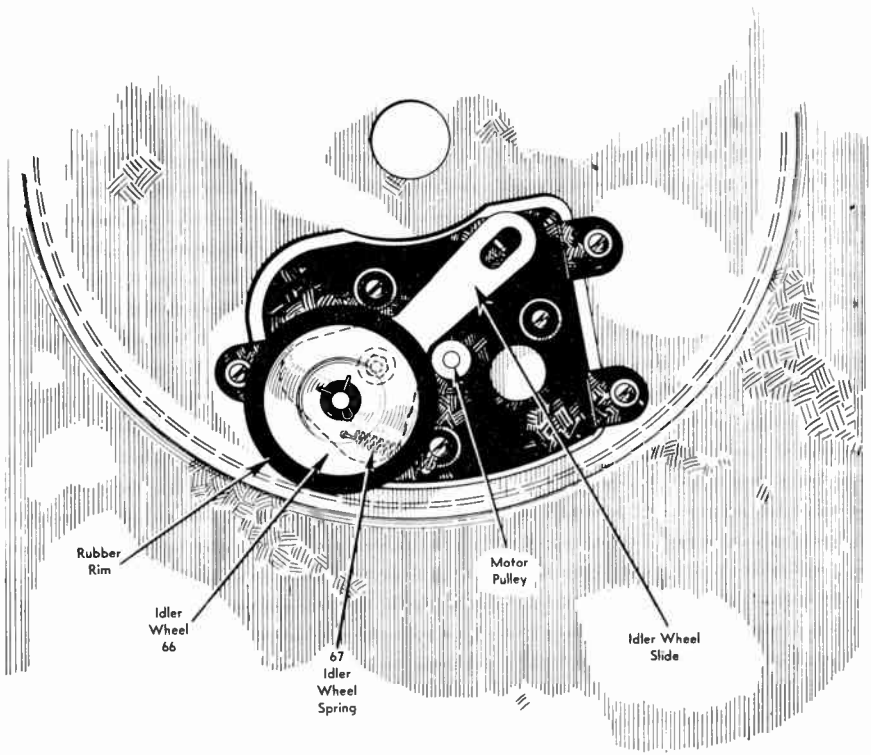

Figure SE25.
12. Wow: Due to quick variations in turntable speed. With the drive gear in open tooth or playing position, remove turntable and check: (a) rotation of spindle. Examine for bind at any point, and oil sparingly if required, after cleaning; (b) idler wheel rubber rim should be undamaged and perfectly free from oil and grease; (c) idler wheel mounting and slide should move freely. Spring tension on slide must be maintained. Oil slide sparingly if necessary. (See figure SE25).